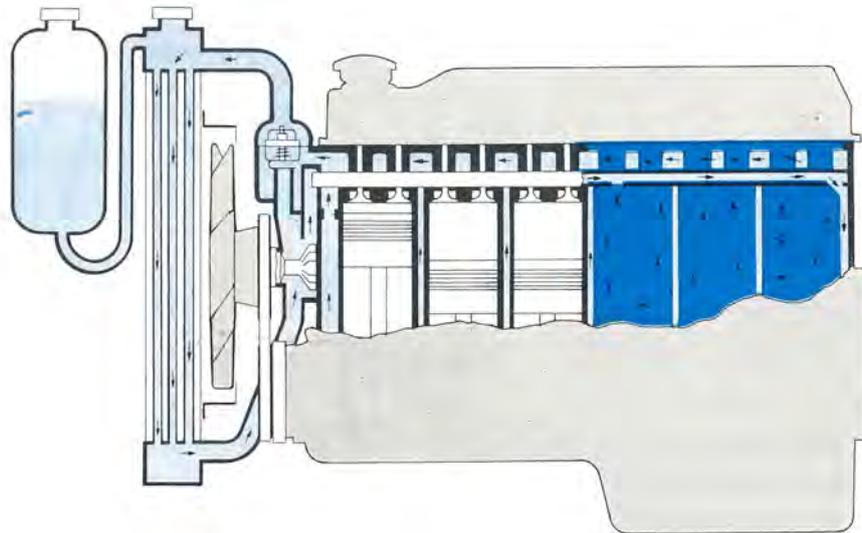
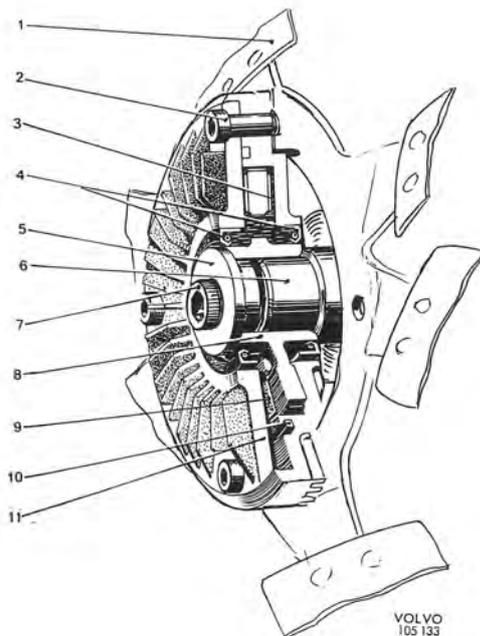
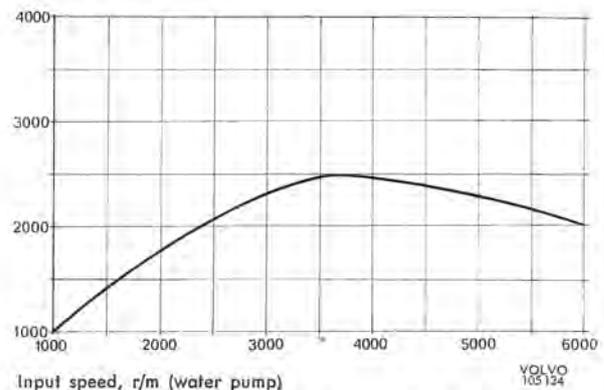

Fig. 2-149. Sealed cooling system
Fig. 2-150. Fan coupling
Fig. 2-158. Curve for fan coupling slip
The engine is water-cooled and the cooling system is of the sealed type, see Fig. 2-149. A fan cover mounted on the radiator improves the cooling function of the fan. The fan is speed-regulated, a so-called slip-coupling type (see Fig. 2-150), the function of which is to ensure that the fan blades do not exceed a certain speed even if the engine speed is exceeded. See Fig. 2-158. The six fan blades are mounted asymmetrically to keep down the noise level. The fan coupling consists of the casing (11, Fig. 2-150) in which the fan blades (1) are secured with the bolt (2). The casing (11) has two halves which, however, cannot be separated for repairs, the fan coupling then being replaced complete. The hub (8) has a light fit on the water pump flange (6) and is locked by means of the center bolt (7). The hub is provided with a slip disc of friction material (9) surrounded by oil. During idling and at low speeds, the slipping is insignificant, so that the fan provides an air current for satisfactory cooling. When the ingoing speed (that of the water pump) exceeds about 58 r/s (3500 r/m), the slipping
increases (see Fig. 2-158). With this arrangement, the fan speed should never exceed about 41.7 r/s (2500 r/m). The fan noise output would then be low compared with a fan which runs at the same high speeds as the water pump. Compared with this latter type of fan, the output loss will be less for the slip-coupling type fan.
The fan coupling function can be checked with a stroboscope with variable blinking frequency. Make a mark on the fan and one on the water pump pulley. Find out the speed relationship between fan and pulley by means of the stroboscope. The fan speed should follow the speed of the water pump according to the curve given in Fig. 2-158.